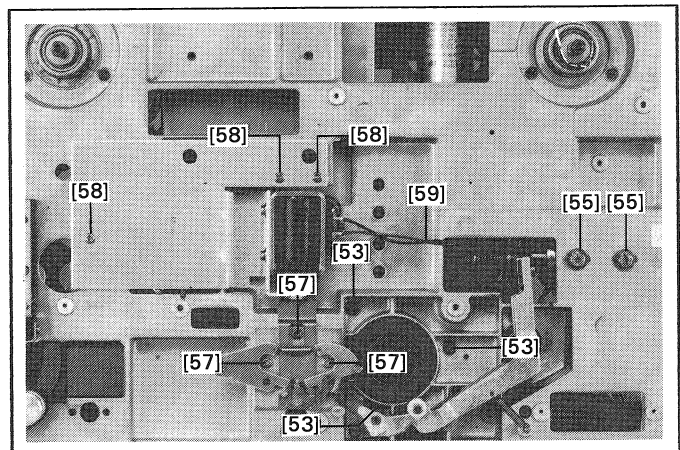

Fig. 25
- Unfasten 3 screws of the capstan motor flange [53] (Fig. 25), and simultaneously slide out the capstan motor while securing it with one hand.
- Unfasten 2 screws [55] (Fig. 25) of the pinch roller mount and slide out the relay.